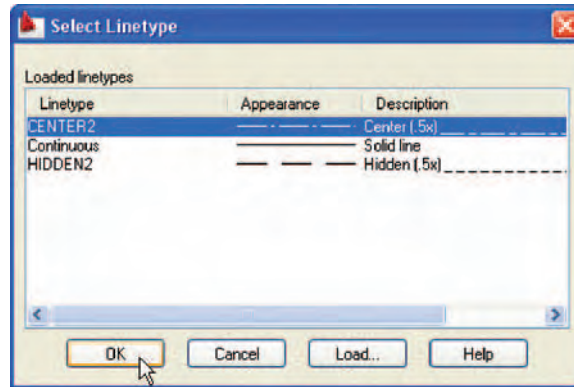

Fig. 4.19 The Select Linetype dialog
5. Click on the linetype **Continuous** against the layer name **Center**. The **Select Linetype** dialog appears (Fig. 4.19). Click its **Load...** button and from the **Load or Reload Linetypes** dialog *double-click* **CENTER2**. The dialog disappears and the name appears in the **Select Linetype** dialog. Click the **OK** button and the linetype **CENTER2** appears against the layer **Center**.